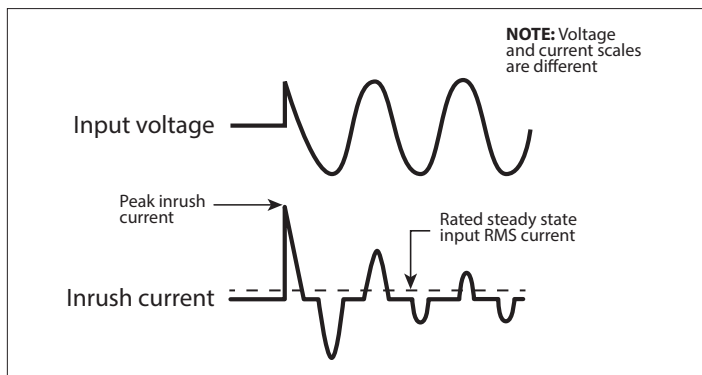

Fig 4.1: Inrush current in an SMPS
- AC to DC Switched Mode Power Supplies (SMPS): This type of power supply is used as stand-alone power supply or as front end in all electronic devices powered from Utility / Grid e.g. in audio/video/ computing devices and battery chargers (Please see Section 4 for more details on SMPS). When this power supply is switched ON, its internal input side capacitors start charging resulting in very high surge of Inrush Current for a few milliseconds (Please see Fig 4.1). This surge of inrush current / power may reach up to 15 times the Continuous Maximum Running Power Rating. The surge of inrush current / power will, however, be limited by the Surge Power Rating of the AC source.
**Power Factor, (PF):** It is denoted by "PF" and is equal to the ratio of the Active Power (P) in Watts to the Apparent Power (S) in VA. The maximum value is 1 for resistive types of loads where the Active Power (P) in Watts = the Apparent Power (S) in VA. It is 0 for purely inductive or purely capacitive loads. Practically, the loads will be a combination of resistive, inductive and capacitive elements and hence, its value will be  $> 0 < 1$ . Normally it ranges from 0.5 to 0.8 e.g. (i) AC motors (0.4 to 0.8), (ii) Transformers (0.8) (iii) AC to DC Switch Mode Power Supplies (0.5 to 0.6) etc.
**Reactive Load:** A device or appliance that consists of a combination of resistive, inductive and capacitive elements (like motor driven tools, refrigeration compressors, microwaves, computers, audio/ video etc.). The Power Factor of this type of load is  $< 1$  e.g. AC motors (PF=0.4 to 0.8), Transformers (PF=0.8), AC to DC Switch Mode Power Supplies (PF=0.5 to 0.6) etc. These devices require Apparent Power (VA) from the AC power source. The Apparent Power is a vectorial sum of Active Power (Watts) and Reactive Power (VAR). *The AC power source has to be sized based on the higher Apparent Power (VA) and also based on the Starting Surge Power.*
Switch Mode Power Supplies (SMPS) are extensively used to convert the incoming AC power into various voltages like 3.3V, 5V, 12V, 24V etc. that are used to power various devices and circuits used in electronic equipment like battery chargers, computers, audio and video devices, radios etc. SMPS use large capacitors in their input section for filtration. When the power supply is first turned on, there is a very large inrush current drawn by the power supply as the input capacitors are charged (The capacitors act almost like a short circuit at the instant the power is turned on). The inrush current at turn-on is several to tens of times larger than the rated RMS input current and lasts for a few milliseconds. An example of the input voltage versus input current waveforms is given in Fig. 4.1. It will be seen that the initial input current pulse just after turn-on is > 15 times larger than the steady state RMS current. The inrush dissipates in around 2 or 3 cycles i.e. in around 33 to 50 milliseconds for 60 Hz sine wave.